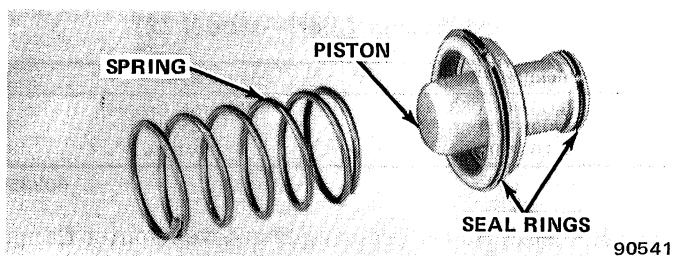

Fig. 2C-99 Accumulator Assembly
- (1) Before installing valve body, check operation of clutches and bands using air pressure test procedure to confirm proper operation.
- (2) Clean all mating surfaces and remove any burrs from transmission case or valve body steel plate mating surfaces.
- (3) Install accumulator piston assembly in case bore and install piston spring on piston (fig. 2C-99).